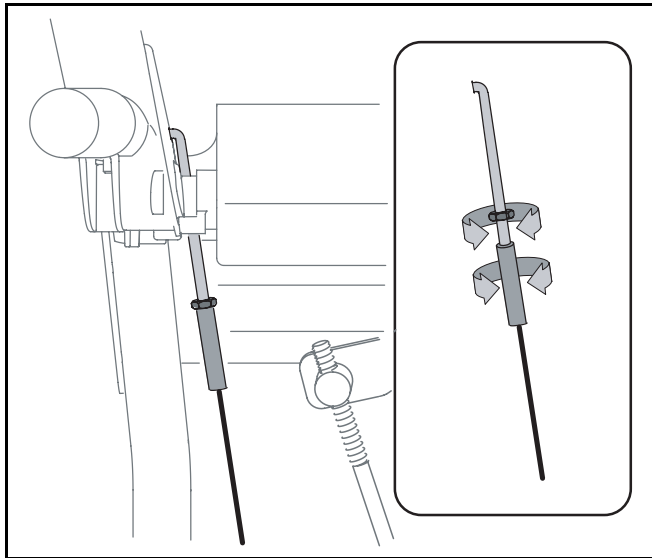

Figure 1
- Retighten the hex jam nut. See Figure 1.